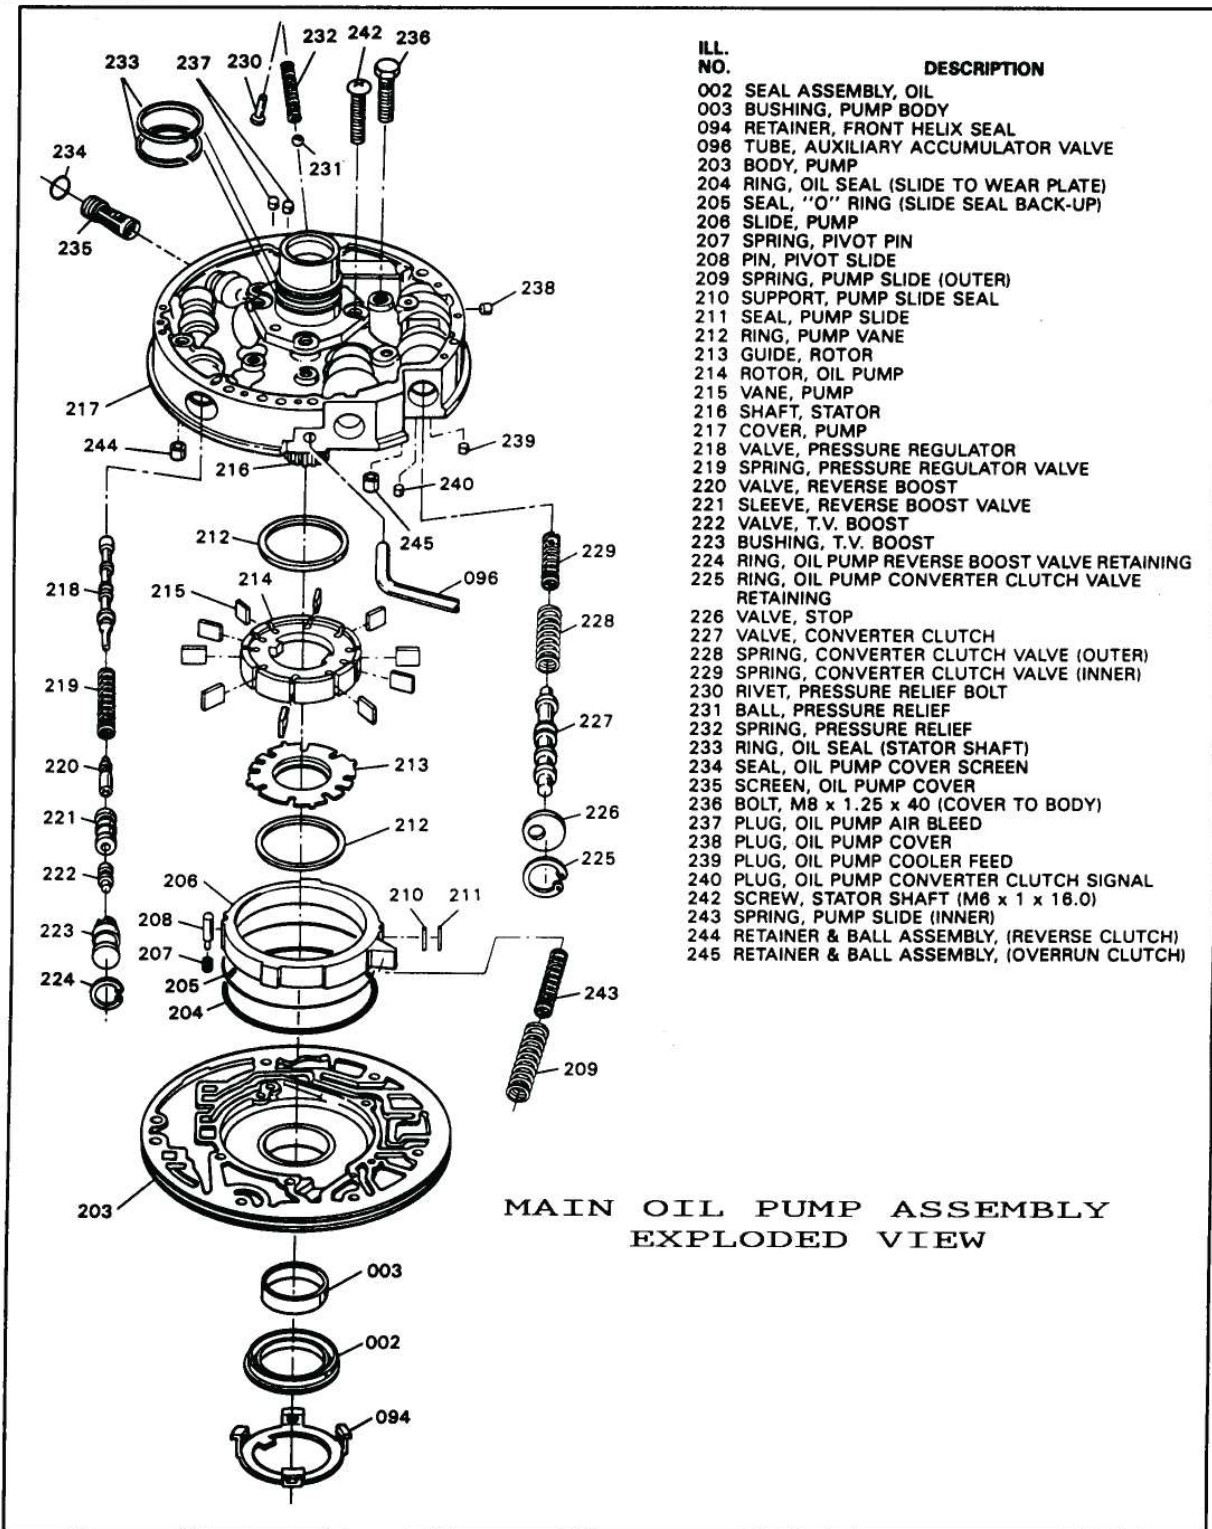

Figure 170
2. Install new front pump seal, and seal retainer (See Figure 170).
9. Install both of the pump slide springs (See Figure 170).
12. Install pump rotor and guide assembly into pump pocket with guide towards the pump pocket (See Figure 170).
14. Install remaining vane ring into the pump rotor (See Figure 170).
20. Install inner and outer converter clutch apply valve springs into the pump cover (See Figures 170 and 175).
22. Install converter clutch valve stop, push down with screwdriver, and install snap ring with the flat side facing out (See Figure 170).
24. Install modified pressure regulator valve into pressure regulator valve bore in the pump cover (Figure 170).
26. Install pressure regulator valve spring into the same bore. Refer to Figure 170.
33. Install the two sealing rings on the pump cover (See Figure 170).